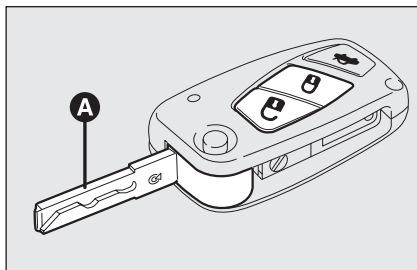

fig. 14
**IMPORTANT** When operating the central door locking with the metal insert **A-fig. 14** of the key, the alarm is not activated.